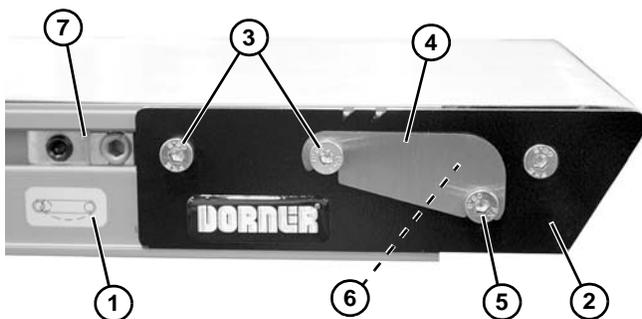

Figure 89
1. On tension end of the conveyor, identified with a  label (**Figure 89, item 1**), adjust head plate assembly (**Figure 89, item 2**):
- a. On both sides of conveyor, loosen fastening screws (**Figure 89, item 3**).
- b. If equipped with dust covers (**Figure 89, item 4**), loosen screw (**Figure 89, item 5**) and remove dust cover on both sides of conveyor. Tighten screw (**Figure 89, item 5**).
- c. Rotate pinion gear (**Figure 89, item 6**) to adjust head plate assembly.
3. After adjusting proper tensioning, tighten fastening screws (**Figure 89, item 3**) on both sides of conveyor to 60 in-lb (7 Nm).
4. If equipped, install dust covers (**Figure 89, item 4**).
5. If equipped with cam tracking assemblies (**Figure 89, item 7**) position against head plates and adjust belt tracking. Refer to “Conveyor Belt Tracking”, next section.